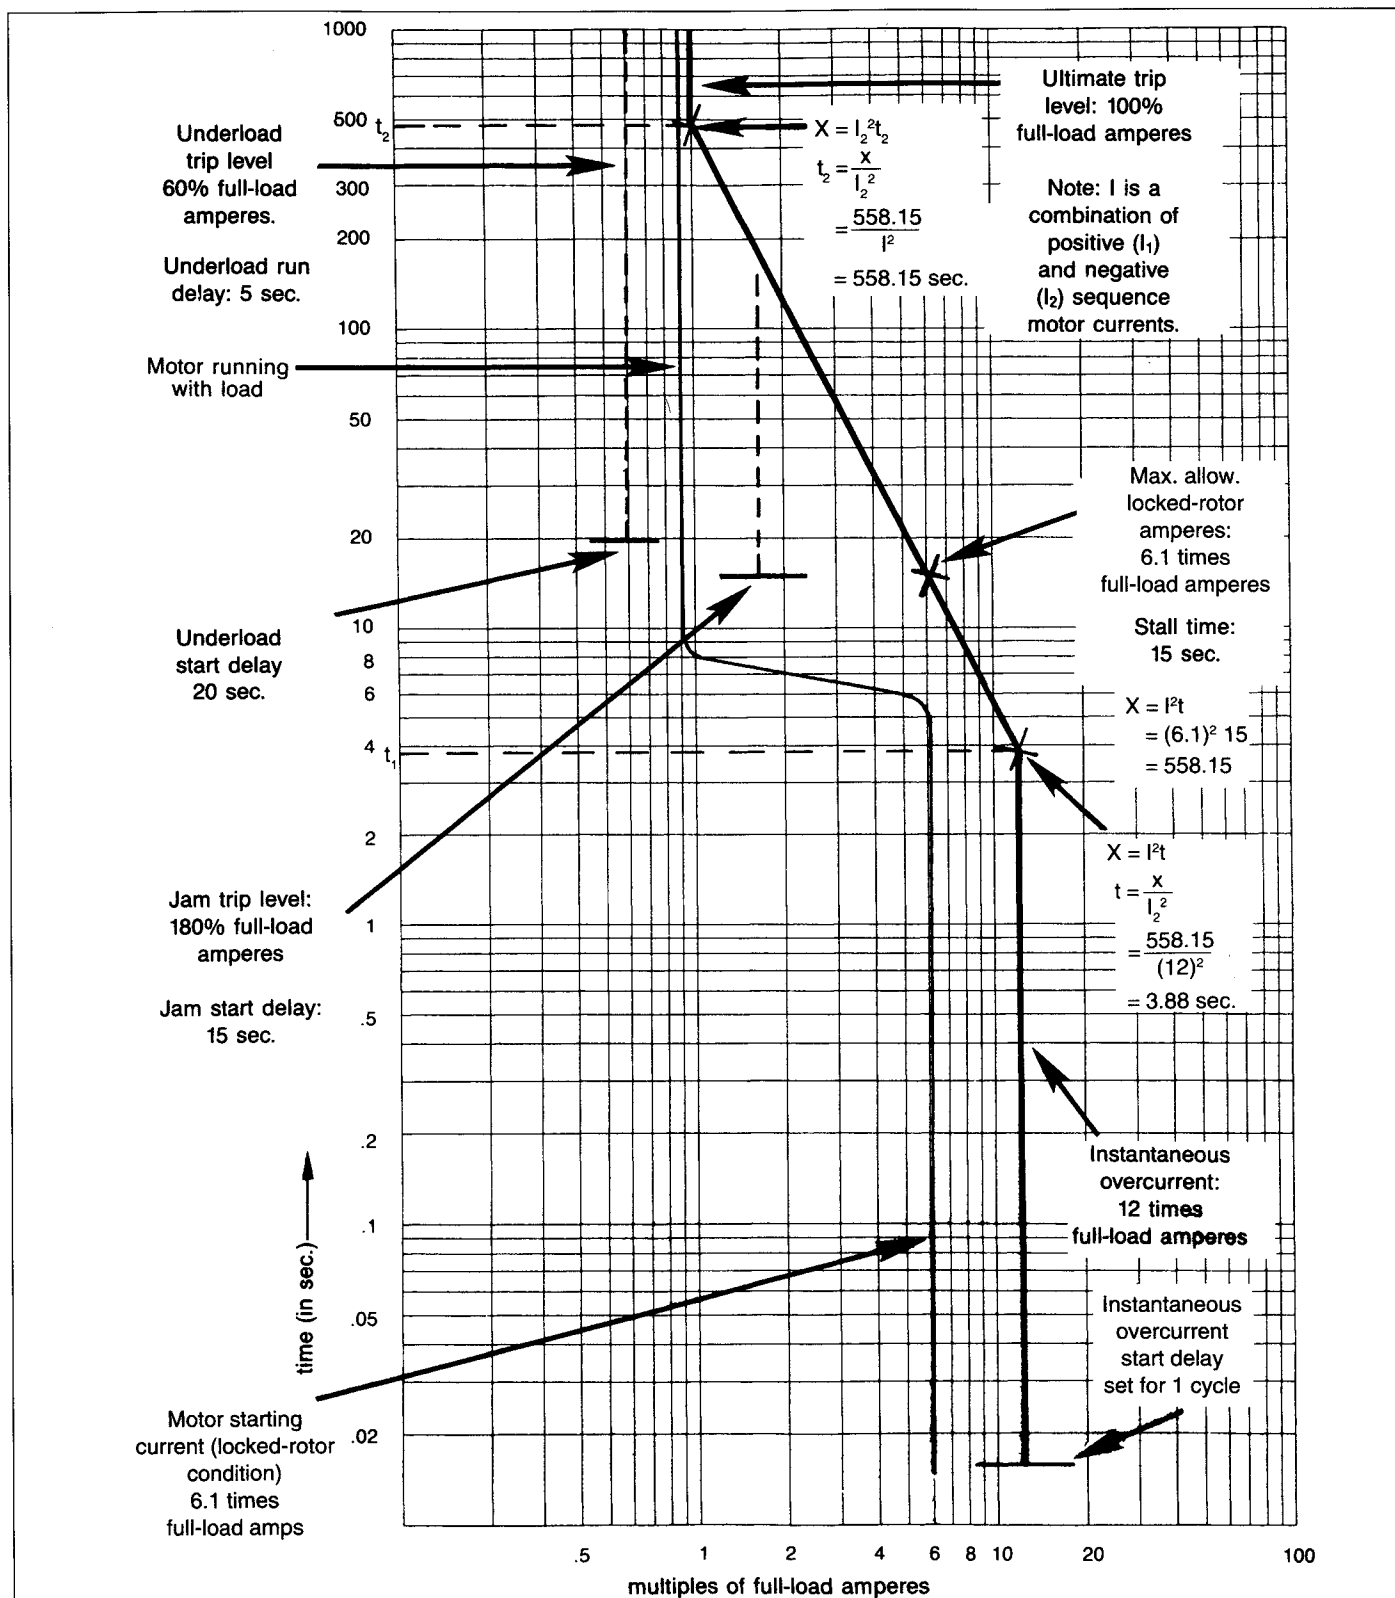
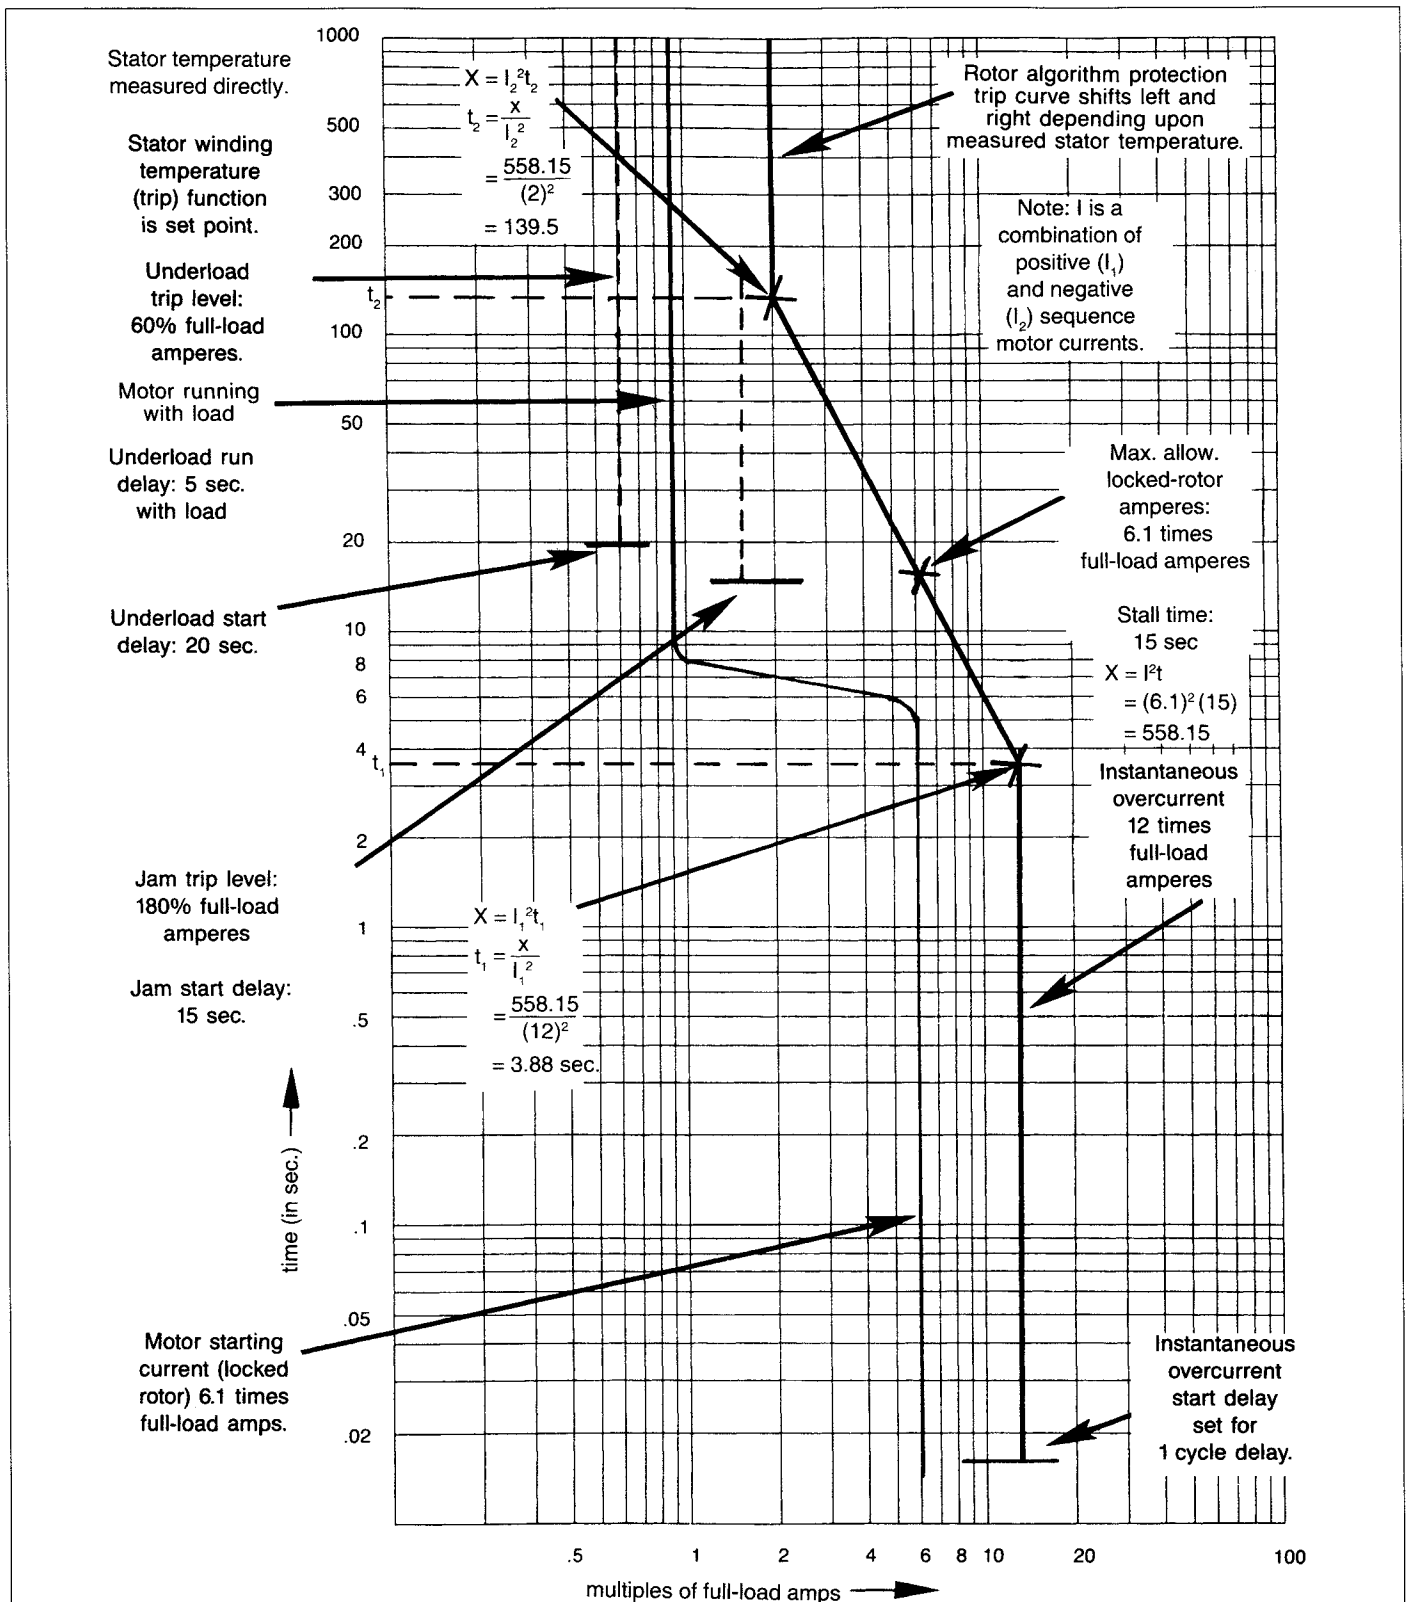

Fig. 7.4 Motor Protection Curve (without RTDs)
Fig. 7.5 Motor Protection Curve (with RTDs)
7.1.4 Typical Motor Protection Curves — To illustrate the IQ-1000 II's protection features, two sample curves are shown. Using specific motor data, typical motor protection curves of the IQ-1000 II without RTDs are shown in Figure 7.4. The use of RTDs is assumed in Figure 7.5. The following data were used:
- Start cycle set at 10 seconds (assumes a single-stage motor). (See items 37 and 38.)
The difference in the typical curve caused by the addition of RTDs is shown in Figure 7.5. It centers on the time period after 60 seconds. (When RTDs are used, the actual monitored temperature automatically overrides the ultimate trip function's setpoint.)
The effects of the motor winding temperature (items 3 and 7) setpoints, which can be used with RTDs, are not evident in Figure 7.5. These functions are independent of the effects of temperature on the I²T algorithm's trip curve. These functions' setpoints are based on the recommended maximum stator temperature, as supplied by the motor manufacturer. Depending upon the specific motor winding temperature setpoints, the temperature trip curve shifts to the left or right.